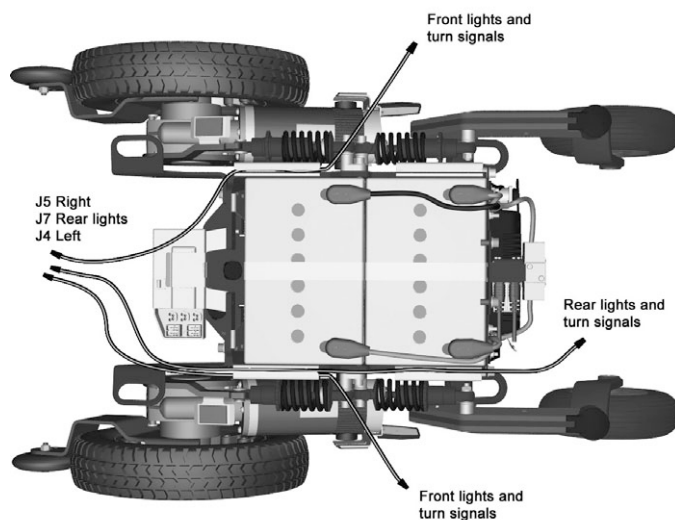

Figure 161. Lights cabling.
7. Remove the lights cabling from the cable tunnels on the left and right hand side of the chassis. See fig. 161.